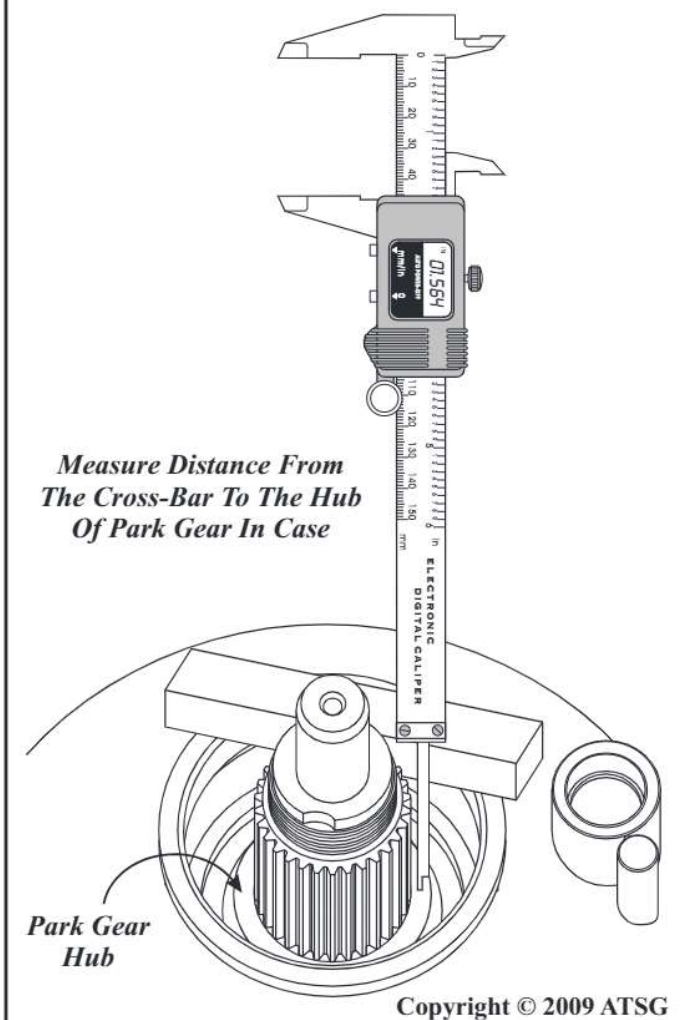

Figure 187
22. Rotate transmission in fixture so output shaft is facing up, as shown in Figure 187, and ensure transmission is **not** in the Park position and no shims installed.
23. Using a cross-bar and dial caliper, measure from the cross-bar to the surface of the hub on parking gear, as shown in Figure 187, and record this as Measurement "A".